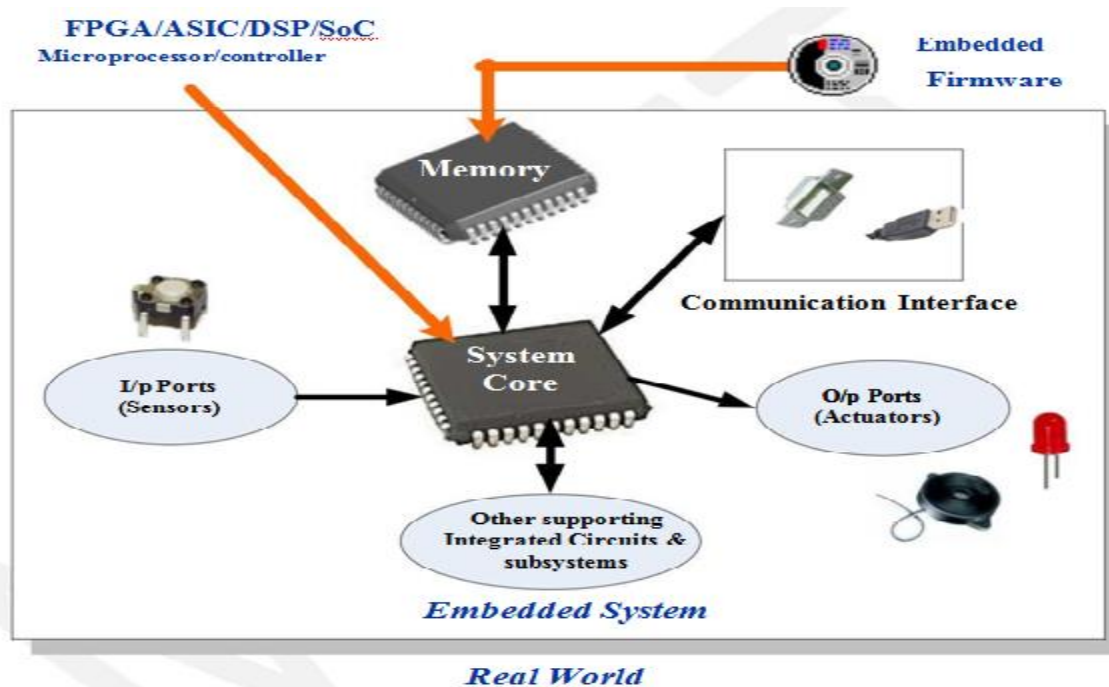

Fig. 3.1: Elements of an Embedded System
- Diagrammatically an embedded system can be represented as shown in figure 3.1.